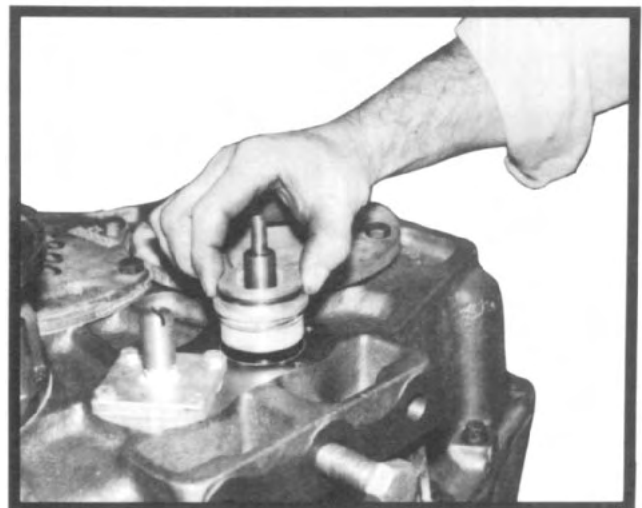

Fig. 33
2. Install two O-rings onto shift cylinder adapter tube, coat adapter tube with gear lubricant, and install tube into rear of housing (see fig. 33).